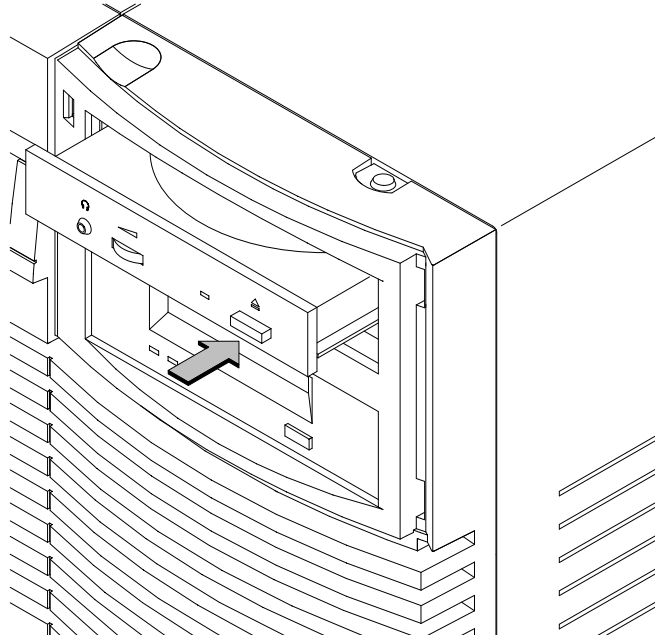

Figure 6-5. CD-ROM Disc Tray Partway Open
- 1.** Press and release the eject button on the CD-ROM drive. The disc tray opens approximately 1 inch, as shown in Figure 6-5.